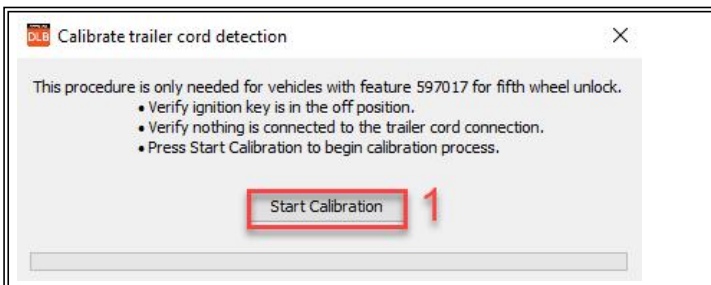

Figure 4: Calibration Tool
6. Follow the on screen instructions. It is recommended that all external lights be turned off for this procedure. Verify the igniton key is in the off position and that nothing is connected to the trailer cord connection then press the Start Calibration Button (Figure 4, Item 1).